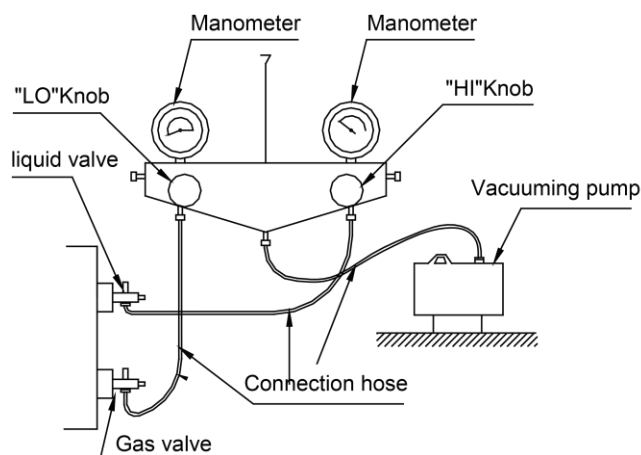

Fig.4.5.1
- (1) Confirm outdoor liquid and gas valves are closed. Air purging from the nozzle located on liquid and gas valves by vacuum pump. See Fig.4.5.1.